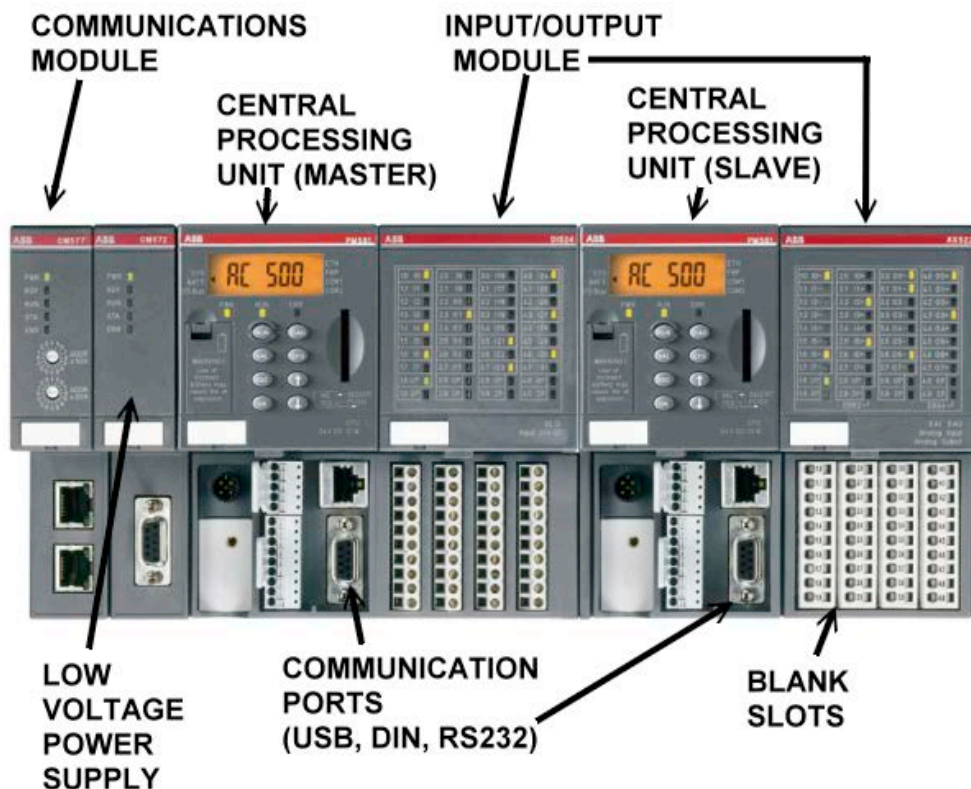

Figure 4.17 ABB AC500 Series PLC
An example of a PLC system for a modern transit escalator would be the Asea Brown Boveri (ABB) AC 500 Series Central Processing Unit (CPU) and its associated Input/Output Modules (IO), operator panel and low voltage power supply. The particular model number would vary with the installation. See Figure 4.17.